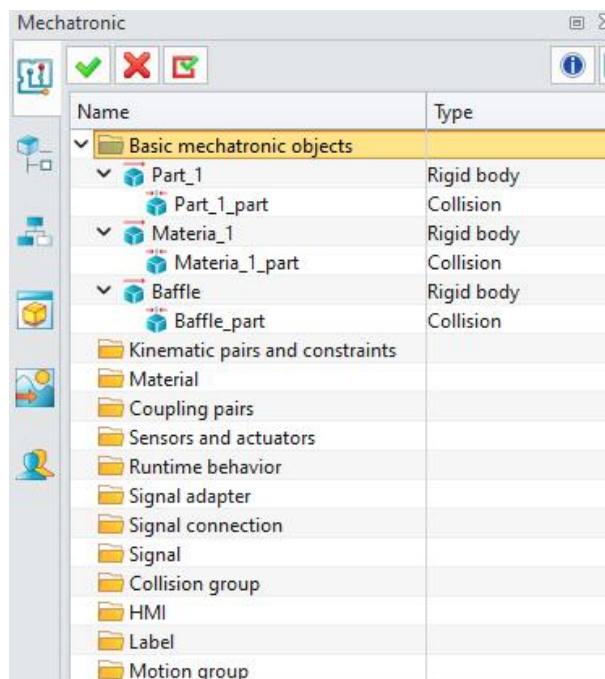

Figure 6-12: Basic mechatronic object framework
- All rigid bodies and collisions should now be listed under "Basic Mechatronic Objects." (Figure 6-12)